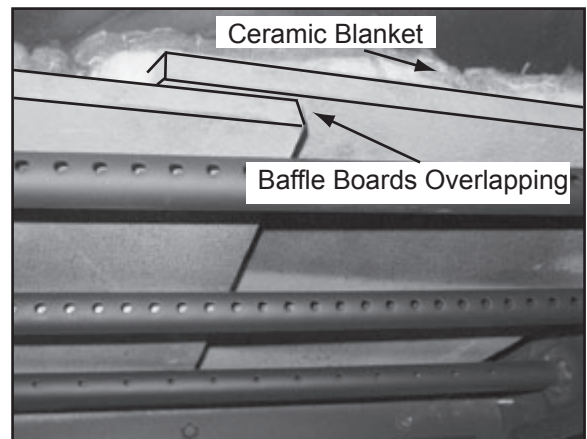

Figure 9.2
3. Once the baffle protection cover has been removed, pull the baffle boards and ceramic blanket forward about 1 inch (25mm) and then overlap the baffles about 1-2 inches (25-51mm). **Figure 9.2**